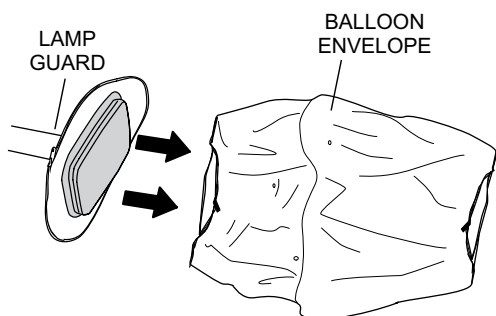

Figure 42. Removing the Balloon Envelope
2. Slide the old or worn balloon envelope (Figure 42) over the top of the lamp guard assembly.